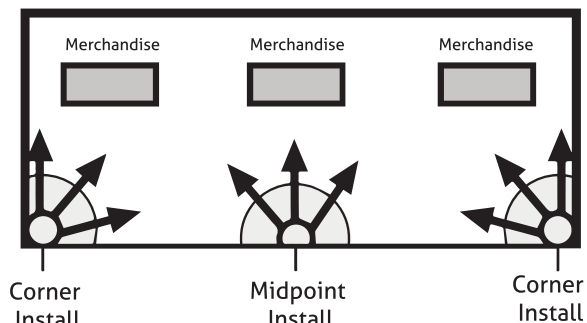

Fig 3.
STEP 4. Turn connect the AC power Cord & Plug (Fig 2) with the cooler light and turn power on and check the light distribution angle as seen in (Fig. 3.) PS: 2FT, 3FT, 4FT, 5FT: 2 pcs mounting brackets;